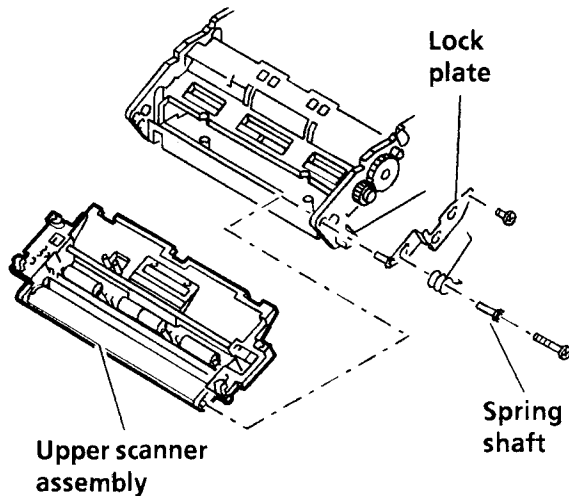

Figure 1. Upper scanner assembly
5. Lift the front of the chassis to gain access and remove the screw (Figure 1) from the lock plate.